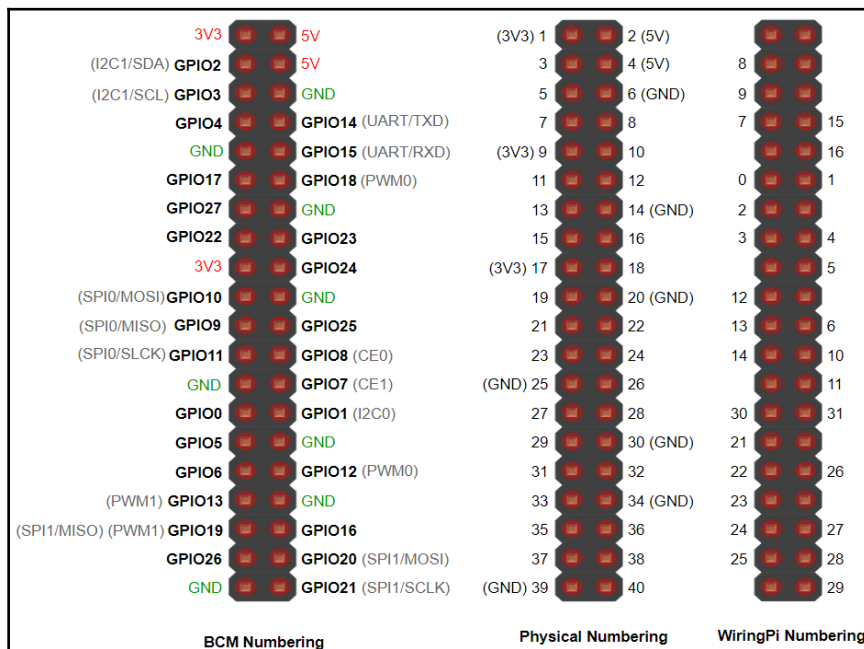

Figure 5.1 – GPIO pin numbering schemes
There are three common ways in which a Raspberry Pi's GPIO pins may be referenced, as illustrated in *Figure 5.1*:
Let's explore these alternatives as shown in *Figure 5.1*:
- **Alternative Pin Functions:** The preceding BCM diagram in *Figure 5.1* lists GPIO pin numbers, together with alternative pin functions such as PWM0, I2C0, and SPI0 in parentheses. These represent alternative roles a pin can perform beyond basic digital I/O.